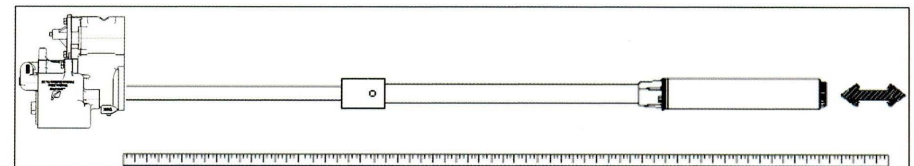

Figure 8: Adjusting pump length
5. Referencing Figure 8, pull the FSP end until the distance between the bottom of the manifold and the bottom of the FSP is 8 inches (200 mm) (14 inches [356 mm] for floating suction) shorter than the distance measured in Step 2.